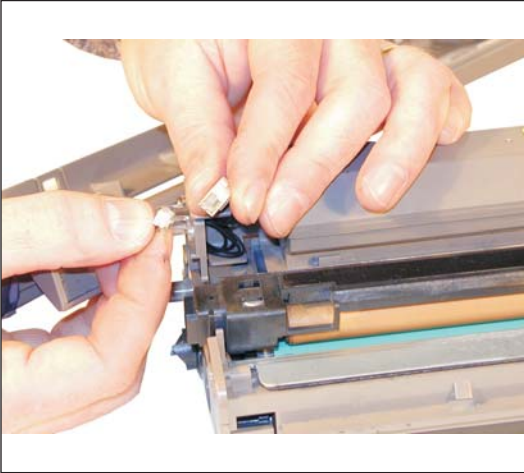

Figure 7
4) Separate the wire harness on the top cover at the small white connector. See Figure 7